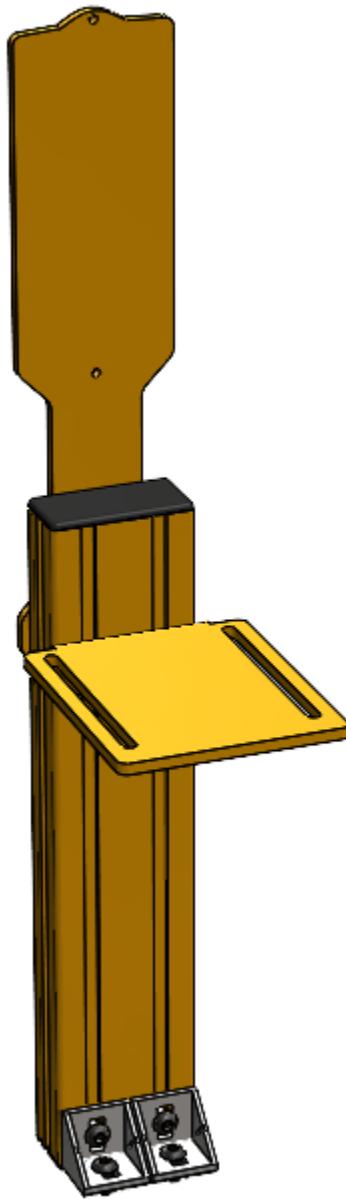

Fig. 1
2. Mount the L-shaped arm on the table with the 2x base foot and the hardware (Fig 1.)